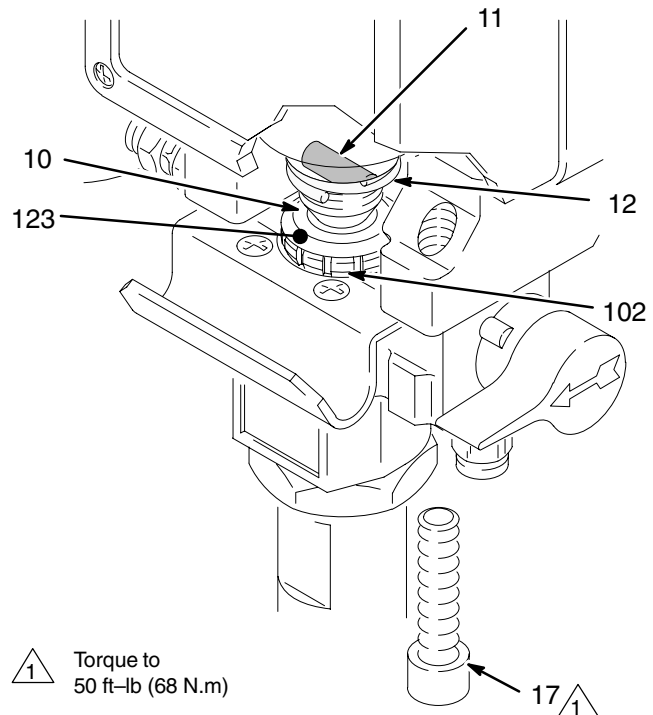

Fig. 9
Be sure the retaining spring (12) is firmly in the groove all the way around, to prevent the pin (11) from working loose due to vibration. See Fig. 9.